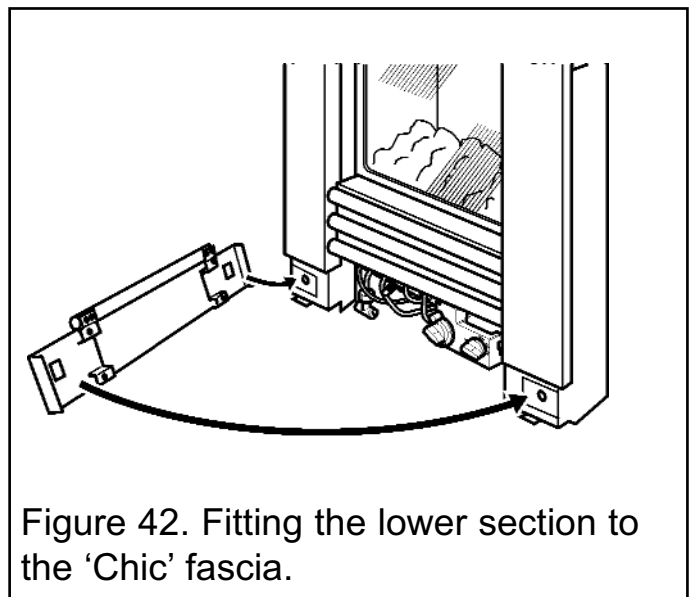

Figure 42. Fitting the lower section to the 'Chic' fascia.
- The lower section of the fascia is secured with magnets. Locate it as in figure 42. The bottom of the lower section should sit on the tags as shown.